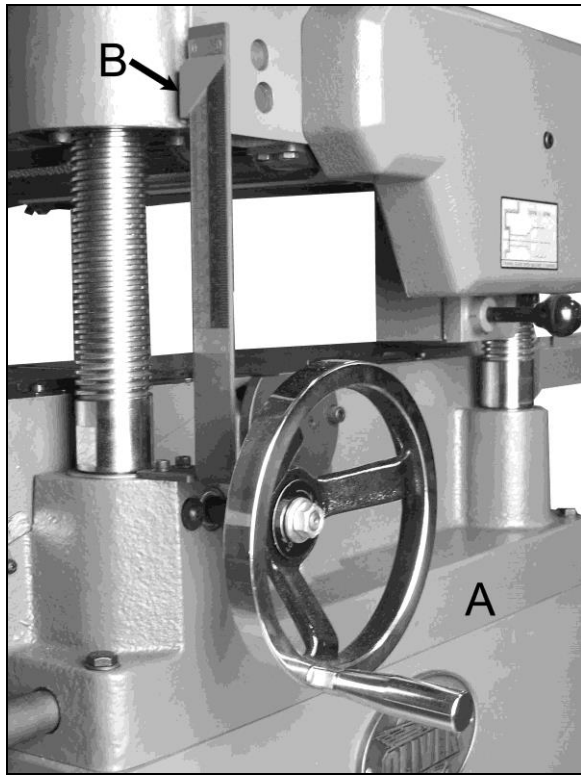

Figure 12
Turn handwheel (A, Figure 12) to raise or lower the top cutterhead assembly. The gage indicates the depth of cut.
2. Use the handwheel (A, Figure 12) to raise the table so that the in-feed roller is about 1/16" above the calibrating board.
7. Adjust the pointer (B, Figure 12) so that it reads the measured thickness by loosening the screws that holds it in place.